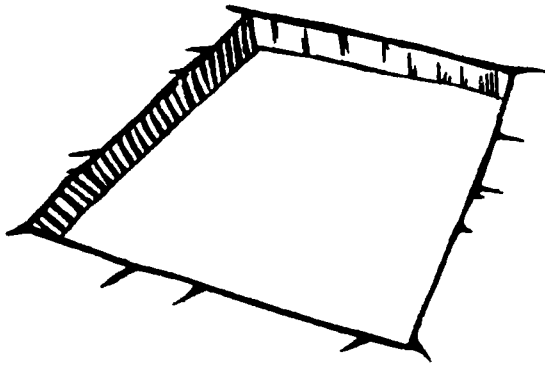

Figure 8. Preparing a pit for cover slab casting
- Dig a square, shallow pit, about 200 millimetres wider and longer than the pit and 50 millimetres deep. Be sure that the bottom of the pit is level and smooth (see Figure 8).